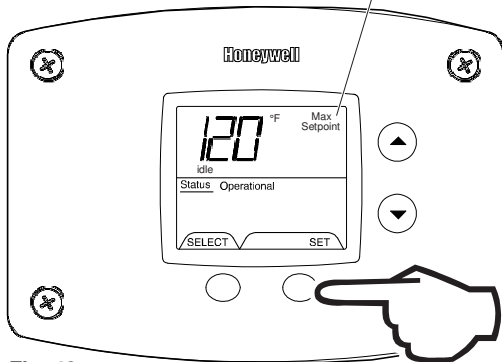

Fig. 42
4. Press 'Set' button to confirm new 'Max Setpoint' value and stop setting mode (Fig. 42).